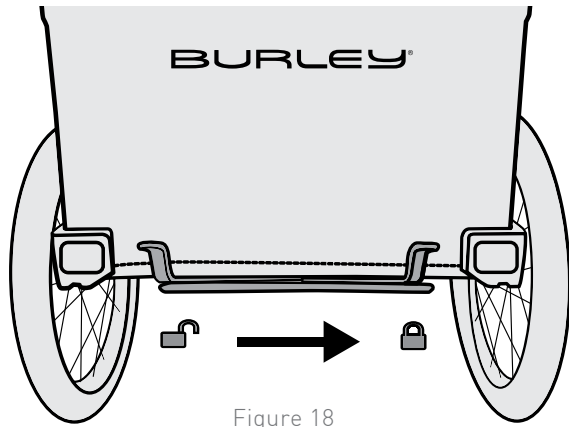

Figure 18
1. To lock the brake, slide the lever to the right (Figure 18). To release the brake, slide the lever to the left.